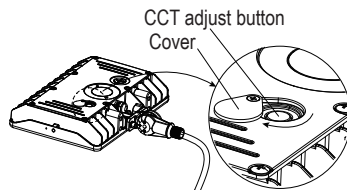

Figure 2
**Step 2:** Loosen the screw holding the button cover, and slide the cover on the side. (Figure 2)